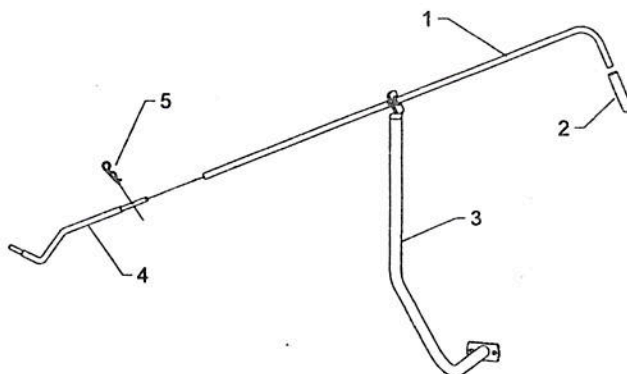

Figure 16
- b) Install 1/2" X 3" handle grip (fig. 16, item 2) on angle handle (item 1).
- c) Insert angling handle (fig. 16, item 1) through a grommet on the support (item 3) and insert on handle bar (item 4). Secure with 2.5mm hair pin (item 5).
- h) Install 1/2 x 3" handle grip (fig. 16, item 2) on angling handle (item 1).
- i) Insert handle through the grommet on support (fig. 16, item 3) and insert on handle bar (item 4). Secure with 2.5mm. hair pin (item 5).